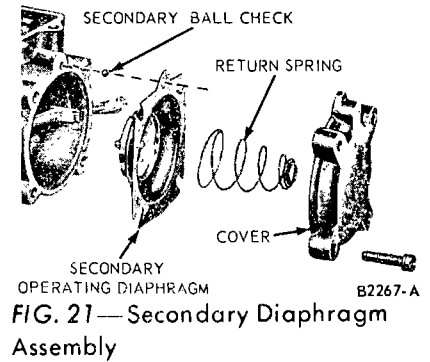

FIG. 21—Secondary Diaphragm Assembly
7. Remove the secondary diaphragm operating rod retainer and remove the rod. Remove the diaphragm cover, return spring, Palnut (if so equipped) and diaphragm (Fig. 21). Invert the main body and let the secondary ball check fall into the hand.
ball check into the passage, in the main body (Fig. 21).